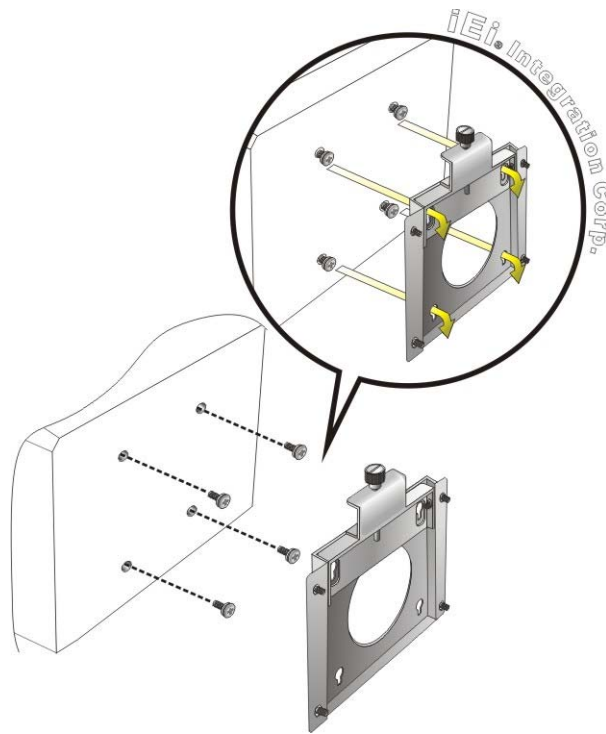

Figure 3-5: Chassis Support Screws
- Step 6:** Insert the four monitor mounting screws provided in the wall mounting kit into the four screw holes on the rear panel of the IOVU-07F-AD and tighten until the screw shank is secured against the rear panel (**Figure 3-5**).
- Step 8:** Carefully insert the screws through the holes and gently pull the monitor downwards until the monitor rests securely in the slotted holes (**Figure 3-5**). Ensure that all four of the mounting screws fit snugly into their respective slotted holes.